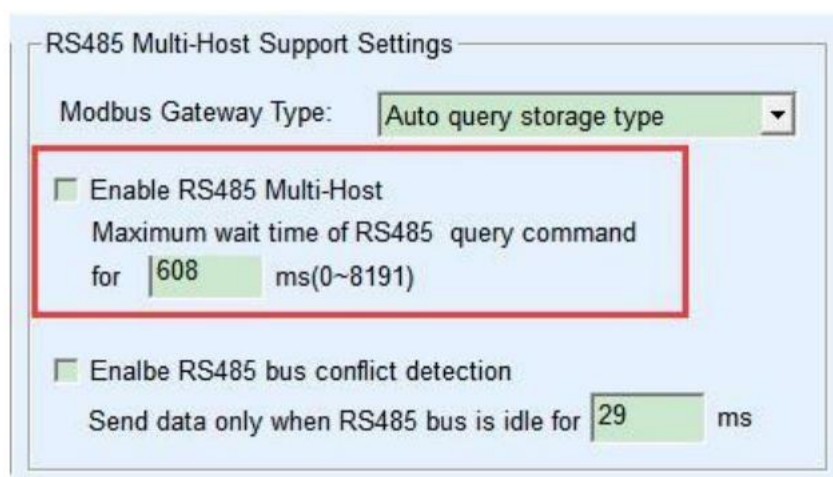

Figure 50 RS485 multi-host support
2. Figure 50 shows the "RS485 command response timeout", which is generally determined according to the length of the back and forth response command. If the sending command is N bytes and the response is M bytes, the recommended value is: "Packet interval" $\times (N+M+5)+100$.
At this time, it should be noted that it is necessary to remove the two checkmarks shown in Figure 38 as "RS485 bus anti-collision time" and Figure 50 as "RS485 command response timeout time". Otherwise, the above forwarding function cannot be realized. Another application method is: Although the serial server is connected to multiple network port devices as a Client, the RTU device is not the master station, and the network port device still sends it first, and the RTU device responds (as a slave station). At this time, the "RS485 bus anti-collision time" and "RS485 command response timeout time" still need to be checked, so that multiple hosts can access one RTU device at the same time.